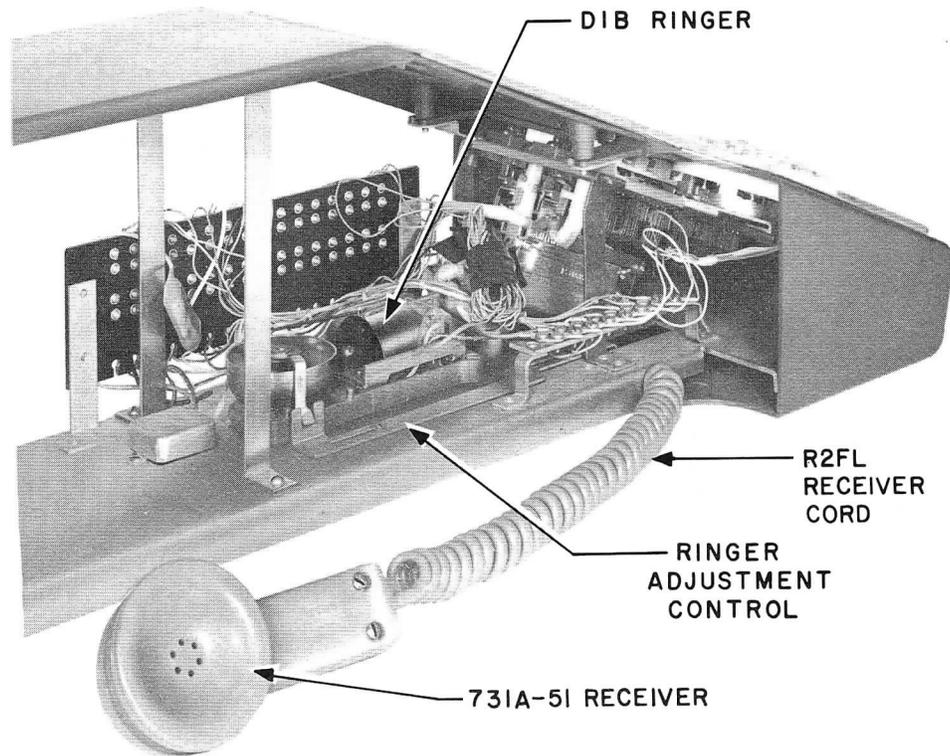

Fig. 3 - 689B Subscriber Set, Side View
2.03 This set has the same general appearance as the 689A but is equipped with two 598D keys (Fig. 3 and 4).